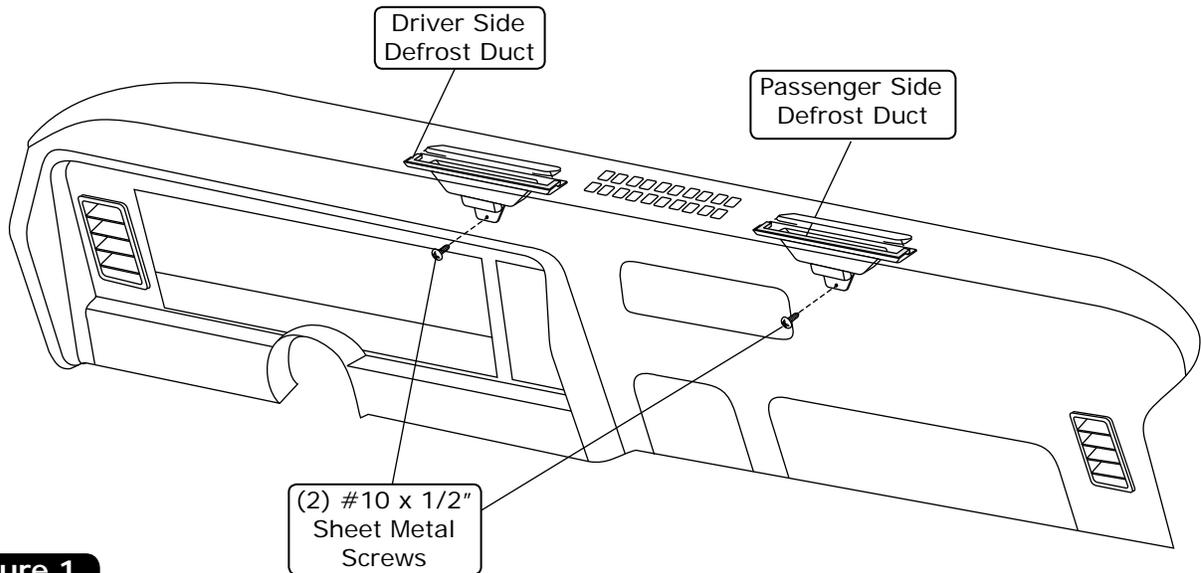

Figure 1
1. Install the defrost ducts under the dash as shown in Figure 1, below. Align the defrost ducts with the defrost opening in the dash, hold in place and use the bracket as a template to drill a 7/64" hole. Secure using a #10 x 1/2" sheet metal screw.